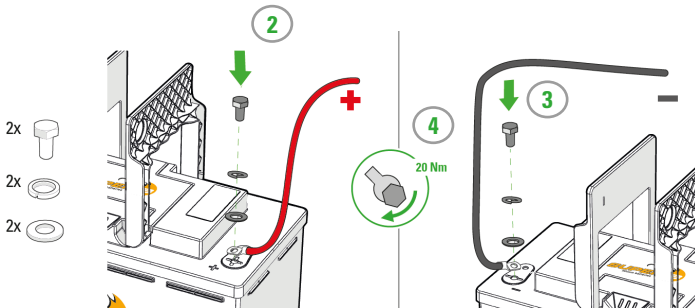

Figure 10. Connecting power cables with cable lugs
2. Connect the load or charger to the X2 (+) terminal of the Li-ion battery. (Figure 10)
3. Connect the X1 (-) terminal of the Li-ion battery. (Figure 10)